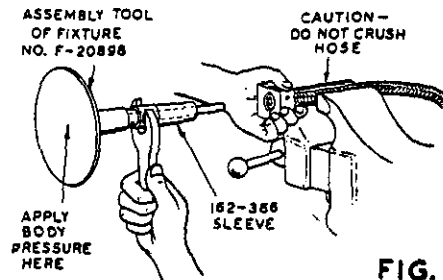

FIG. 8
3. Add a drop of oil to the end of the wires, position assembly block with its grooved side toward end of hose just cut and slide block onto hose until it protrudes about 1/32 to 1/16 of an inch beyond the end of hose. See Fig. 8.
4. Slip the threaded end of sleeve 162-366 over assembly tool as shown in Fig. 8 and while holding block in place on hose, insert end of tool into hose and end of sleeve into groove.